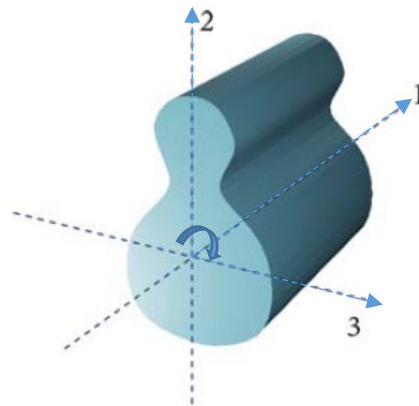

Figure 1.3: Section in 3D showing local axes
- **Axis:** Various editing operations, computed properties, and shape locations are referenced to the global X and Y axes. These axes help locate the shapes properly by providing a common origin. Two pairs of axes are used in the program. The first pair is X-Y, which is a global fixed reference on the screen. The second is the 2-3 coordinate system, which indicates the location of the section's centroid. The 2-3 axes origin keeps changing with changes in the shape's size and location. This system is provided to be compatible with the member local axis system used in CSI's SAP2000 and ETABS programs. In those programs, the 1-1 axis is used as the axis that passes through the members' longitudinal axis. A section showing the local axes is presented in Figure 1.3.